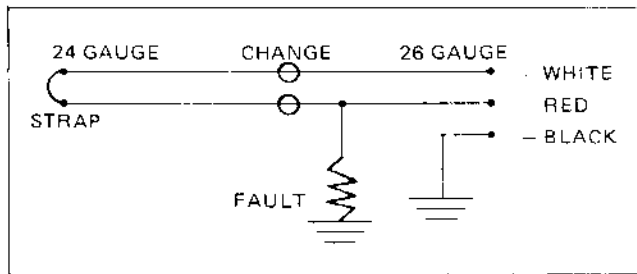

Figure 13
- (C) For precise measurement of distance to fault, the Model 210 should be relocated at the far end section and the fault retested (Figure 13).